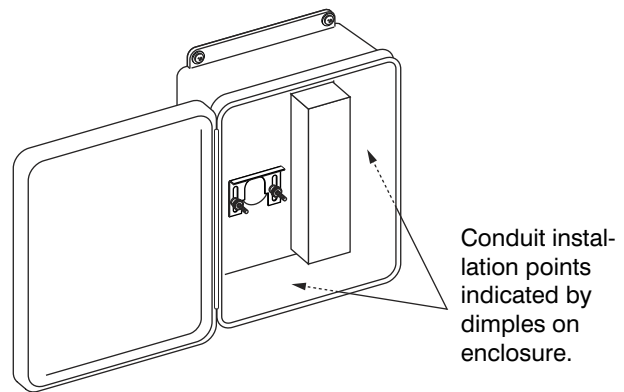

**Fig. 1** Mount the device using #10 x 5/8" or longer sheet metal screws and washers. Be sure to use sealant if installing outdoors.
**ENCLOSURE MOUNTING (Fig.1 )**